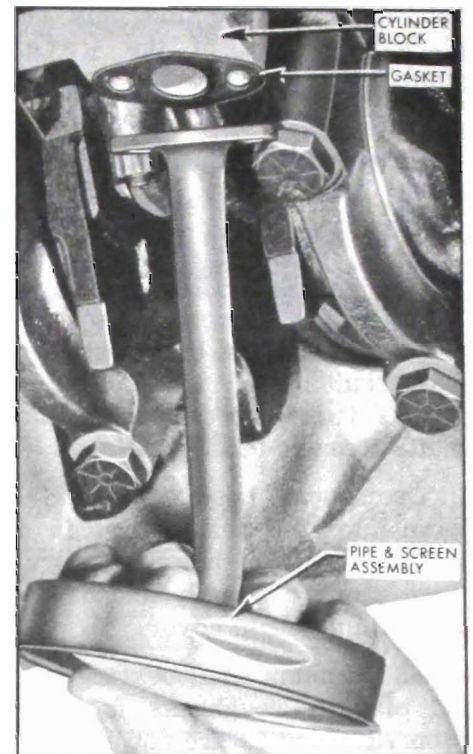

Figure 2-61—Installation of Oil Pump Pipe and Screen Assembly
11. Remove oil pan bolts and lower oil pan enough to remove oil pump pipe and screen to cylinder block bolts. See Figure 2-61.